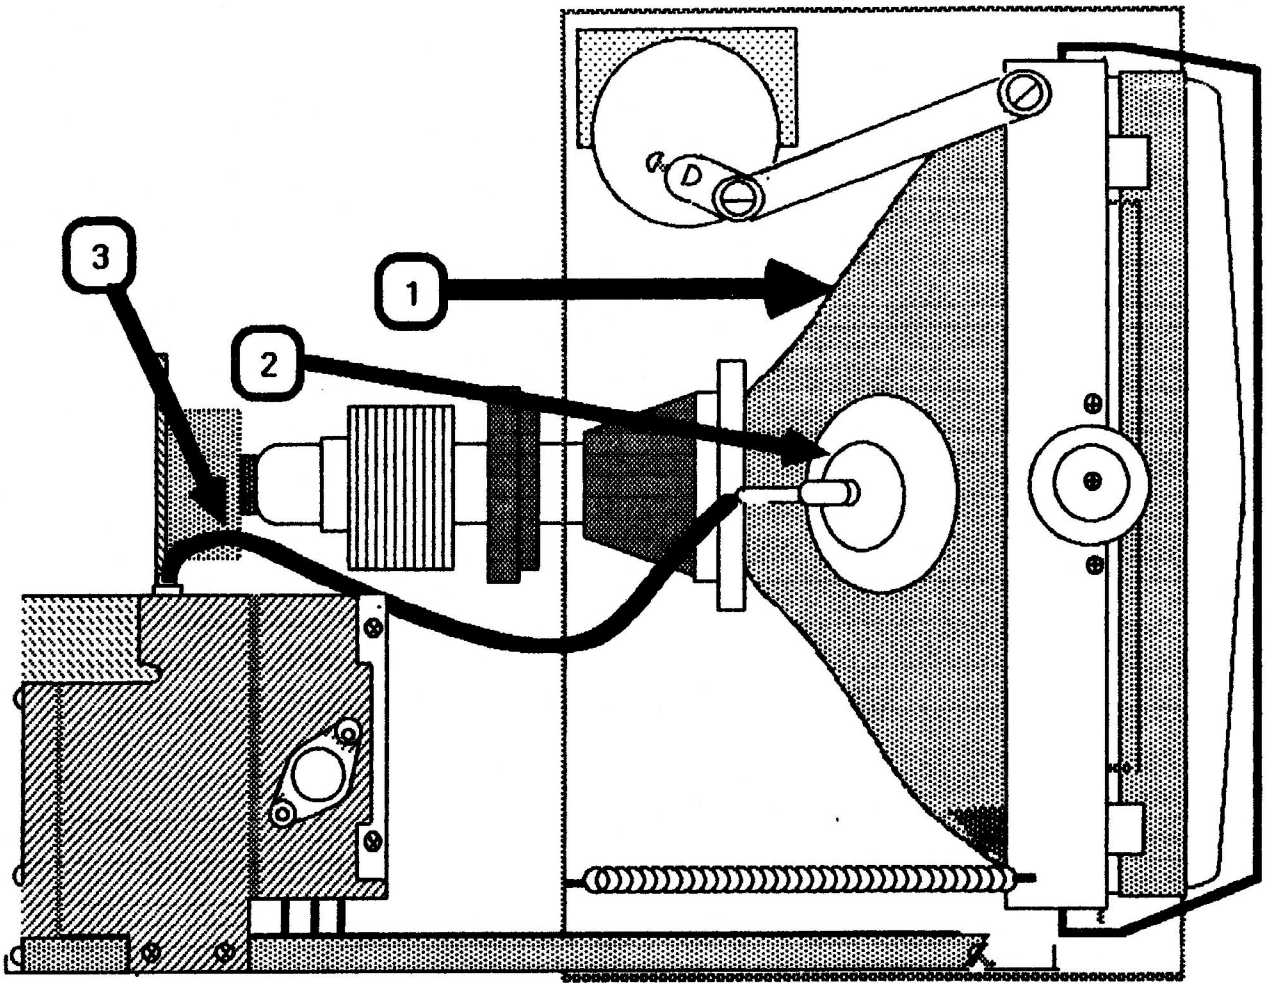

FIGURE 1
**WARNING:** There are extremely high voltages on the CRT, the anode, and the anode lead. In these adjustments you will be putting your hand near these high voltage parts. It is **IMPERATIVE** that you watch what you are touching while making any adjustments when the power is on, otherwise injury can result. Avoid touching the CRT, anode, and the anode lead (Figure 1, #1, #2, and #3). Put one hand in your pocket or behind your back while making adjustments! Never hold on to the chassis with your free hand while making adjustments.